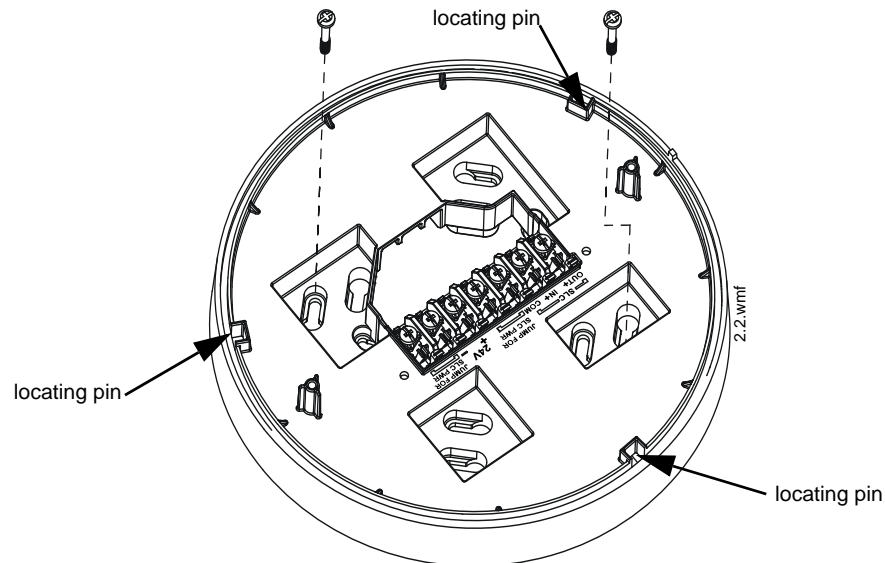

Figure 2.4 Mounting Plate for Wireless Gateway
2. Mount the mounting plate to the junction box or ceiling. See Figure 2.4 below.